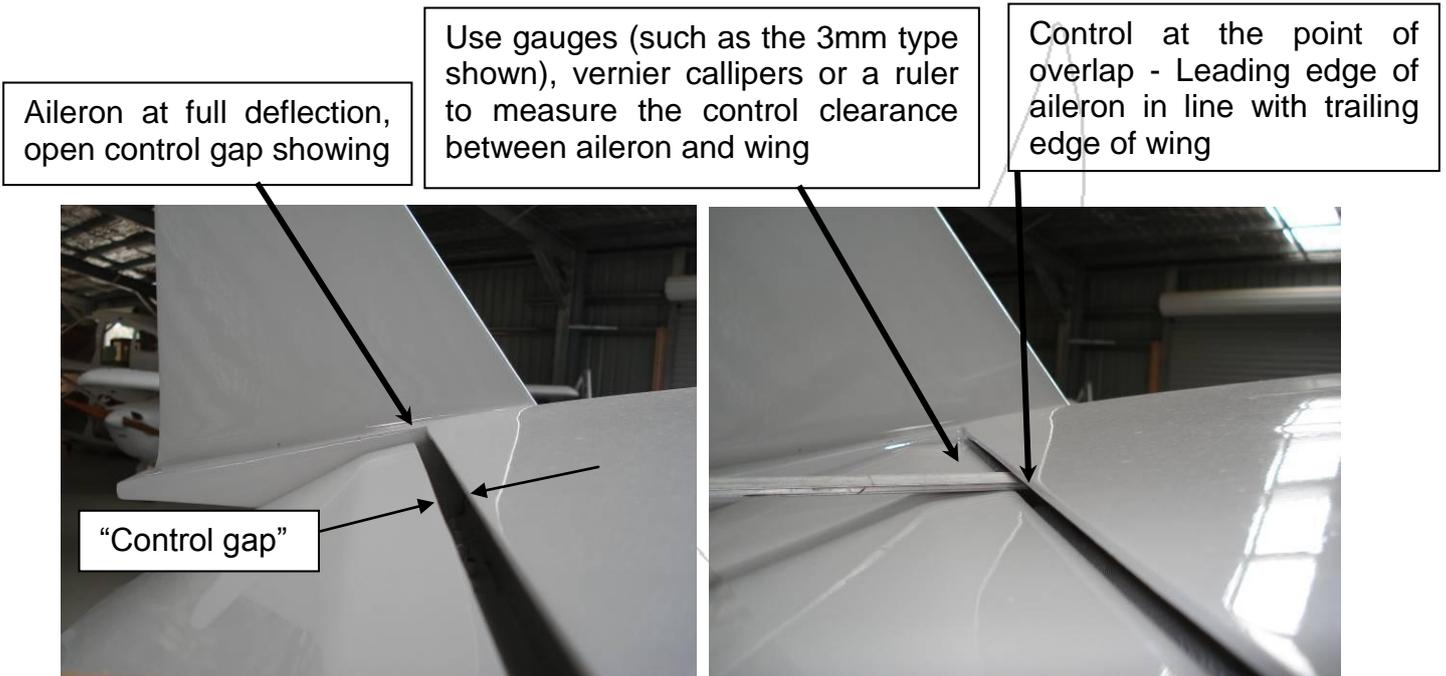

Figure 3 – Aileron Clearance
- **Control gap** – Best shown on Figure 3 (left). If the control passes the point of overlap a gap opens between the aircraft and the control. A gap like this combined with excess flexing of the control surface hinges will lead to control surface jamming.
- Check each control by moving it to its maximum deflection and inspecting for a control gap – as shown in the example of Figure 3.
1. Set the controls so that the control being tested is at the point of overlap – as shown in the right picture in Figure 3. If the control being tested does not deflect to a point of overlap then place it as close as possible to the overlap point.